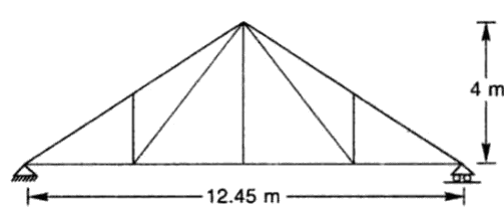

Figure 1
1. Design a steel roof truss shown in Figure 1 for a clear span of 12.0 m. the truss is supported over masonry columns 45 cm x 45 cm trusses are placed 3 m c/c and support galvanised iron sheet on rafters and steel purlins. The rise of the truss is 1/3 of span. The design wind pressure may be assumed to be 1000N/m^2 [12M]